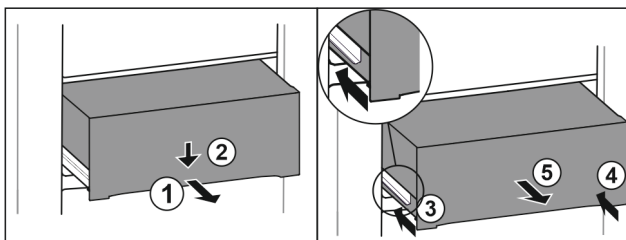

Fig. 153
- ▶ Pull out drawer half-way. Fig. 153 (1)
- ▶ Push the drawer down at the front. Fig. 153 (2)
- ▶ Push the left rail in by about 2 cm. Fig. 153 (3)
- ▶ Push the right rail in by about 2 cm. Fig. 153 (4)
- ▶ Remove drawer to the front. Fig. 153 (5)